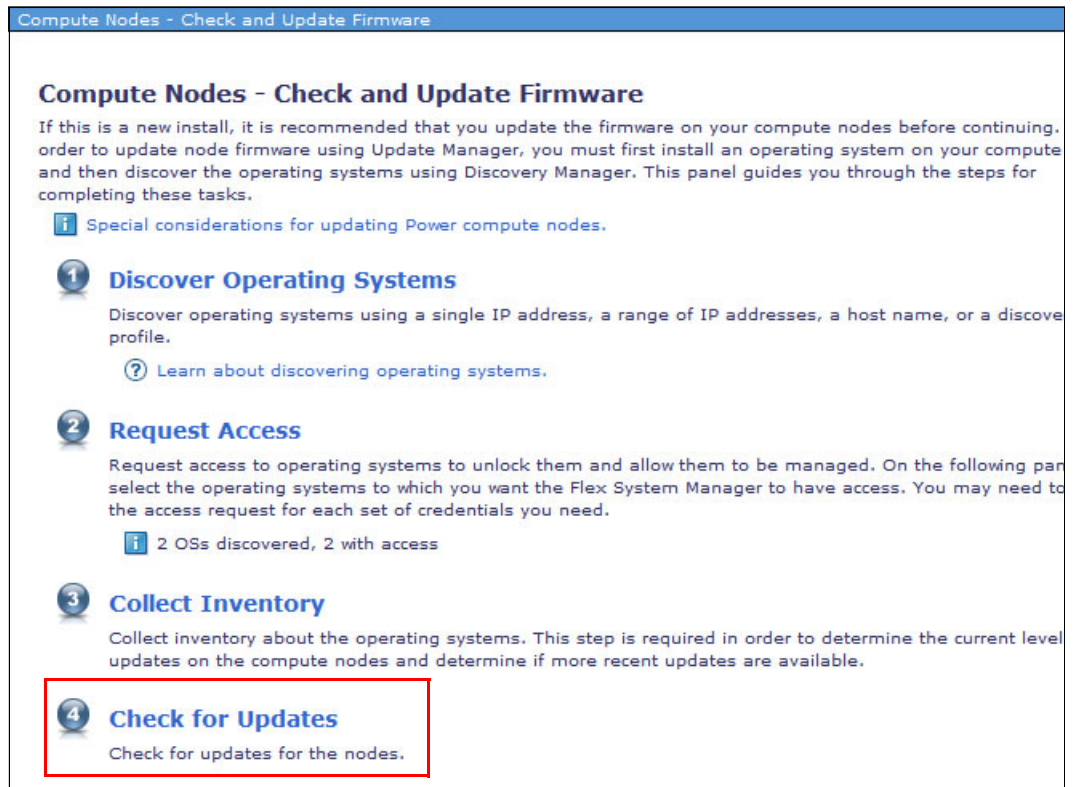

Figure 6-93 Compute Nodes - Check and Update Firmware window: Check for Updates
2. In the Compute Nodes - Check and Update Firmware window, click **Check for Updates**, as shown in Figure 6-93.